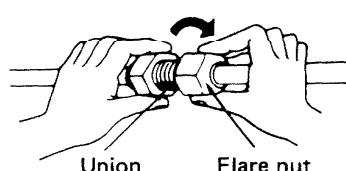

Fig. 28
- For proper connection, hold union tube and flare tube straight with each other, screw in the flare unit lightly at first to obtain smooth match. Fig. 28